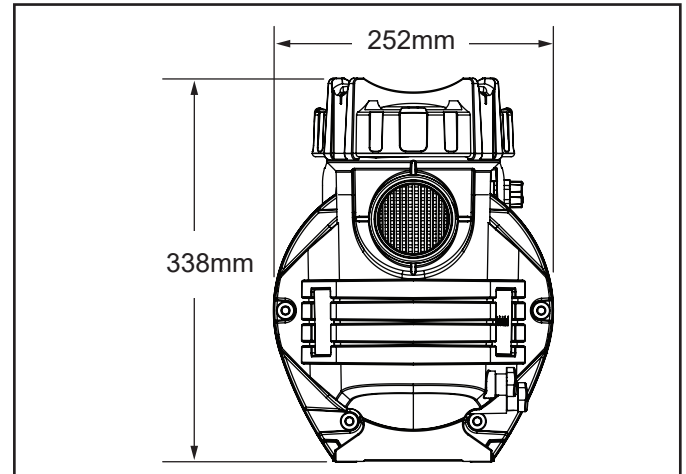

Figure 1. Front Dimensions
Number of Suction Outlets Per Pump - Provide at least two (2) hydraulically-balanced suction outlets, with covers, as suction outlets for each circulating pump suction line. The centers of the suction outlets (suction outlets) on any one (1) suction line must be at least three (3) feet apart, centre to centre. See Figure 1.
The system **must** be built to include at least two (2) suction outlets (drains) connected to the pump whenever the pump is running. However, if two (2) suction outlets run into a single suction line, the single suction line may be equipped with a valve that will shut off both suction outlets from the pump. The system shall be constructed such that it shall not allow for separate or independent shutoff or isolation of each drain. See Figure 1.